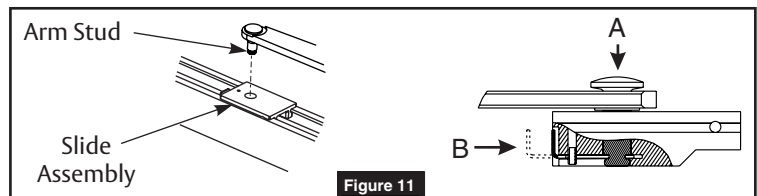

Figure 11
5. Insert stud on arm into slider in track then press clip on backside of slider onto stud. (Figure 11)